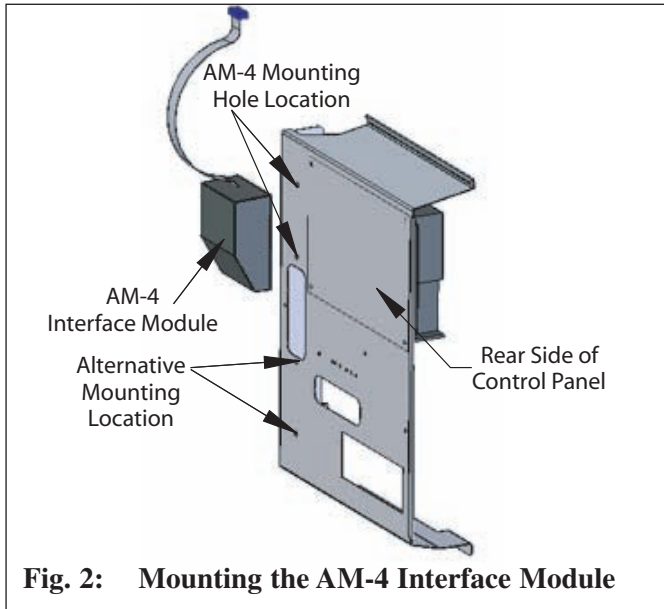

Fig. 2: Mounting the AM-4 Interface Module
7. Place the AM-4 on the backside of the control panel as shown in Figure 2 on page 3. Align the mounting holes of the AM-4 with upper or lower clearance holes along the hinged side of the control panel. Secure the AM-4 module using the two screws provided in the AM-4 kit, from the front of the control panel as shown in Figure 2 on page 3.